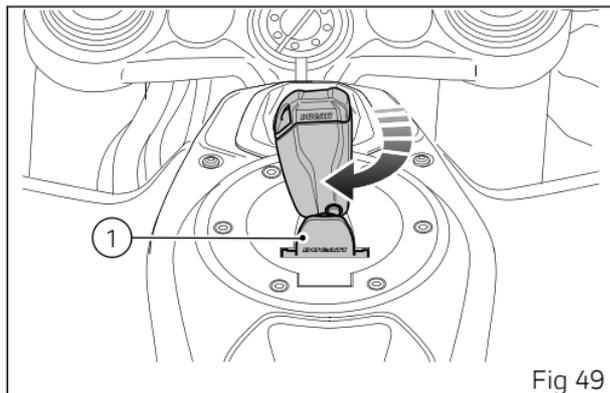

Fig 49
- when activated, it is displayed for the first 5 seconds in the large format (A main screen, Fig 49)
- then it is displayed in the small format (C main screen, Fig 49)